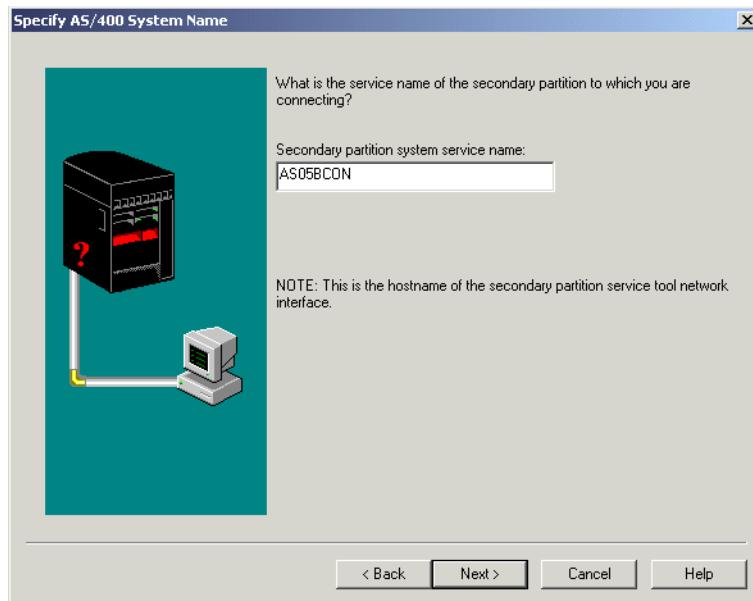

Figure 7-37 Specify AS/400 System Name display (secondary)
7. On the display shown in Figure 7-37, enter the AS/400 system or host name for the secondary partition. This is the system or host name of the Operations Console LAN adapter as it is known on the network. Then click **Next**.